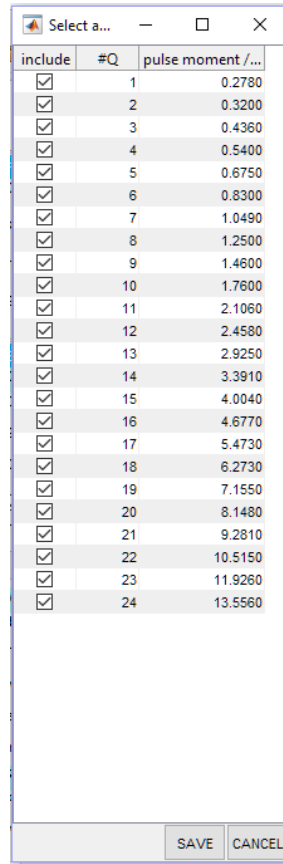

Figure 15: Example of the "Select active pulse moments windows".
- The *active/inactive qs* pushbutton opens a new GUI (Fig. 15) that enables the selection of a given set of pulse moments from the dataset. It can be useful to gain computation time in cases where some pulse moments are non-informative (no signal) and to reduce the impact of noise. The user can check/uncheck the checkbox behind each pulse moment to enable/disable. Once the selection is made press the *Save* pushbutton. If you want to discard the changes, press the "Cancel" pushbutton. **The option is bugged (Matlab R2016a)!!! The Matlab function *findobj* (line 16 in the *getActiveQ*) returns an empty matrix in the case where the figure does not exist, leading to an error in the next line. The line 17 should be replaced by: `if not isempty(oldfigure)`.**